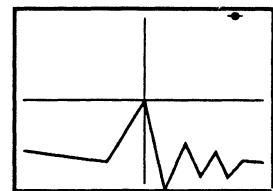

Figure 6 - The desired amount of vertical expansion was applied.
5. Select the desired amount of vertical expansion (Figure 6).